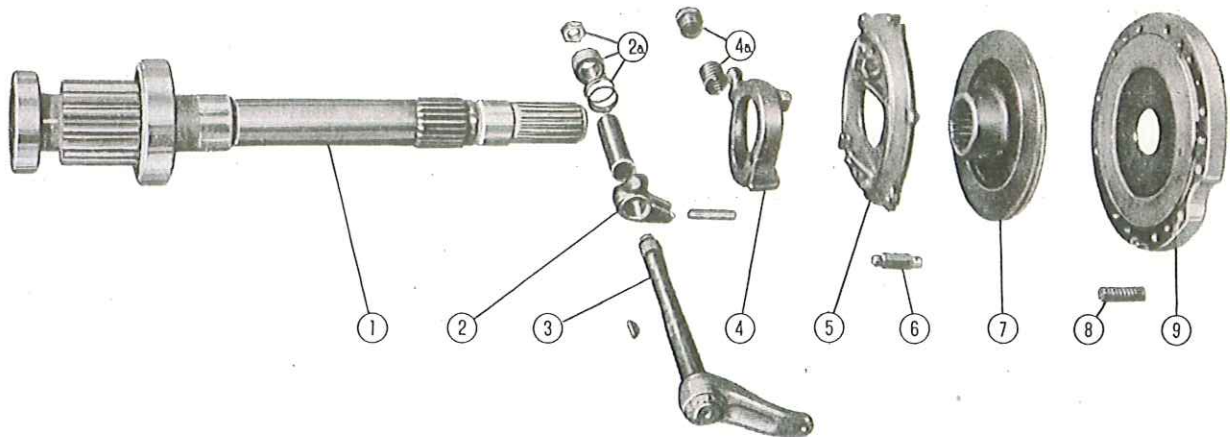
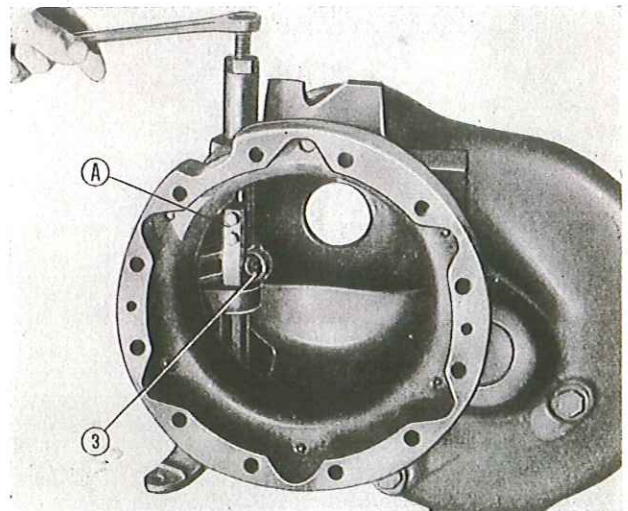
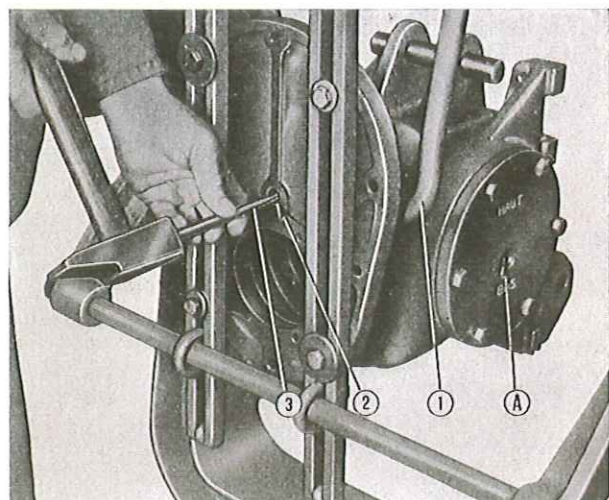

Fig. 88. - Exploded view of the disc brake parts.
Fig. 89. - Removal of transmission lever.
**Fig. 90. - Exploded view of P.T.-O. front driving gear assembly (located in the lower compartment of the clutch housing).**
Refer to Fig. 88; withdraw the screws and remove the fixed plate; pull off the friction disc (mounted on the splined section of the rear axle shafts), the pressure plate, and the pressure lever; the brake springs will slide off automatically at disassembly; pull out the transmission lever using puller **A 447060** (Fig. 89), then the remaining parts still in the brake compartment.
It may be easily done by reversing the order of disassembly and referring to the sectional view of the tractor rear transmission as shown on page 32 and the exploded view of Fig. 88. For control rod adjustment instructions see page 34.
The P.T.-O. front driving gear and its support shaft are located in a compartment of the clutch housing (refer to Fig. 89 and to Fig. 90).
*Bearing housing front cover (1, Fig. 90).*
*Supporting shaft (4, Fig. 90).*
*Driving gear (5, Fig. 90).*